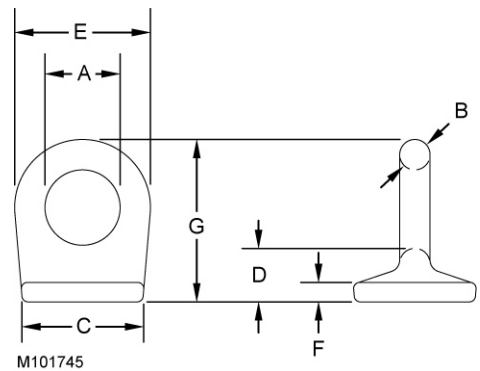

Figure 4-103
See Figure 4-103
1. Do not exceed the approximate capacities listed in Figure 4-103.
2. Make sure the rigging line and the attaching hardware (clips and rope connectors) are rated for the approximate capacities shown in Figure 4-103.